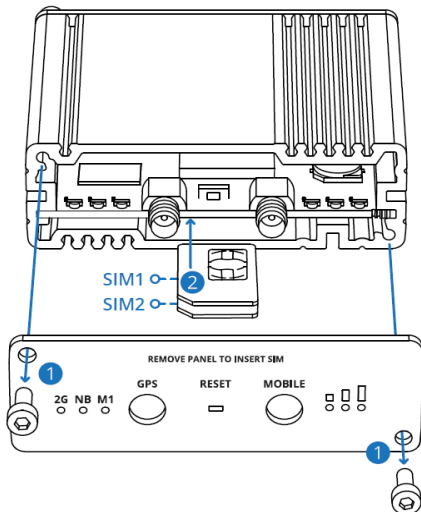
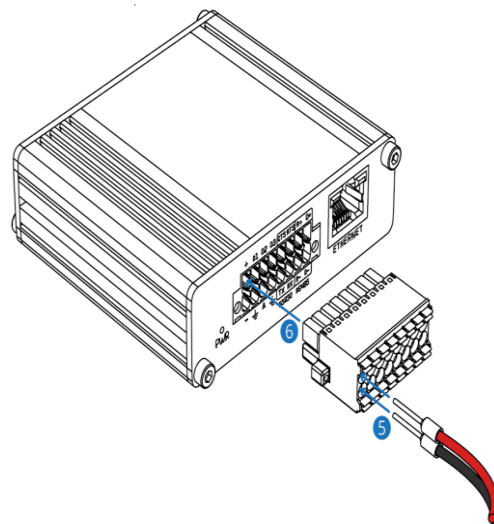

Fig. 4 Insert SIM card (s)
Fig. 5 Connecting 9-30V DC power
2. Hardware installation (see Fig. 4 and Fig. 5)
- Insert SIM cards as shown in figure 4. **Default tray is bottom (tray 1)**